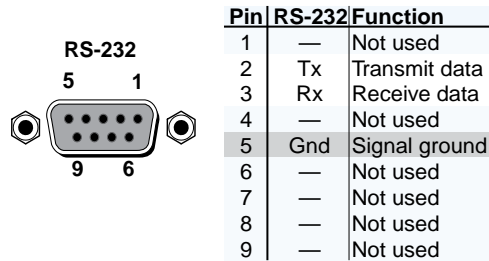

Figure 5. RS-232 Connector Pinout
- ⑤ **RS-232 port** — Connect a computer or control system to this 9-pin D connector to allow remote control using the SIS commands (see figure 5 and the "Programming Guide" section).